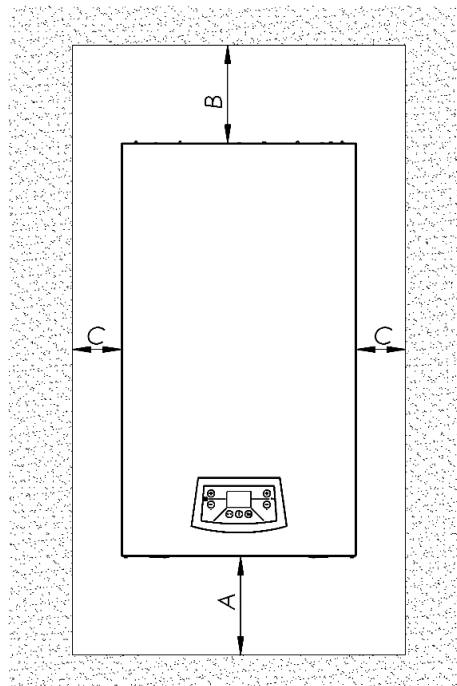

Fig. 3.3.3 – Required mounting distances
- In order to ensure free access during inspections and maintenance, it is advisable to maintain the minimum distances according to Fig. 3.3.3.